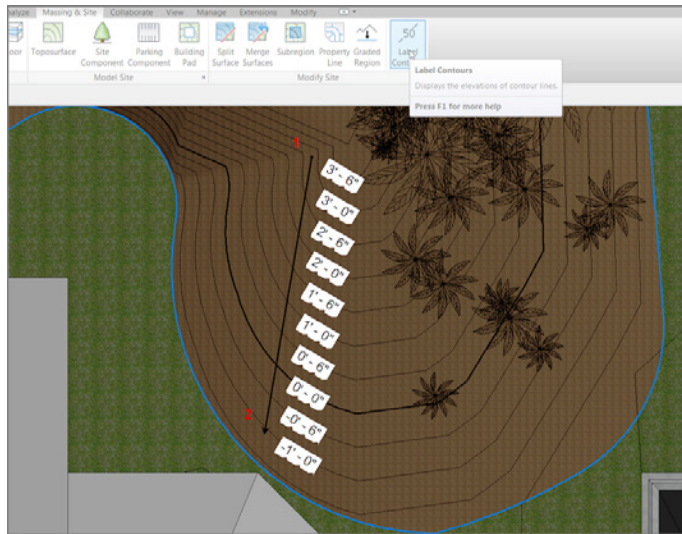

FIGURE 18.20: Labeling the contours
1. On the Massing & Site tab, click the Label Contours button, as shown in Figure 18.20.
2. Pick a point to the outside of the toposurface, labeled 1 in Figure 18.20.
3. Pick a second point near the building, labeled 2 in Figure 18.20. After you pick the second point, the contours are labeled.